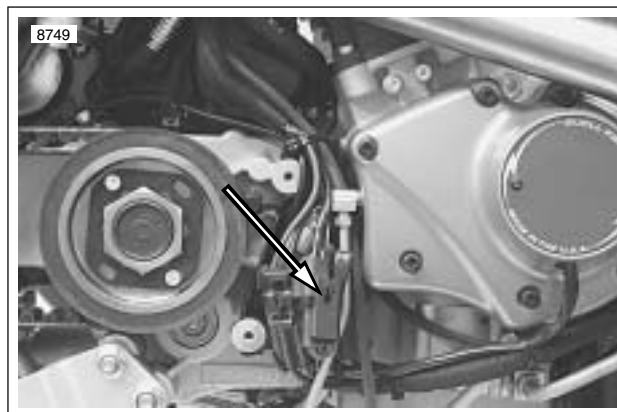

Figure 4-65. Cam Position Sensor Connector [14] (stator connector disconnected)
4. See Figure 4-65. Disconnect cam position sensor wiring at connector [14].